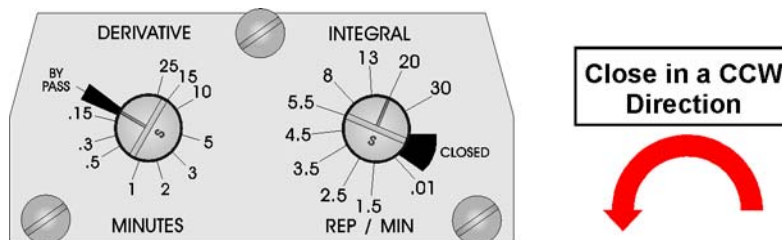

Figure 3-11 - Controller's Derivative & Gain Adjustments
13. Set the DERIVATIVE Adjustment Screw to the BYPASS position if used (see Figure 3-11).
15. Set the INTEGRAL adjustment to 20 Repeats per Minute (REP/MIN) (see Figure 3-11).
23. Set the Integral adjustment to 20 REP/MIN (see Figure 3-11).